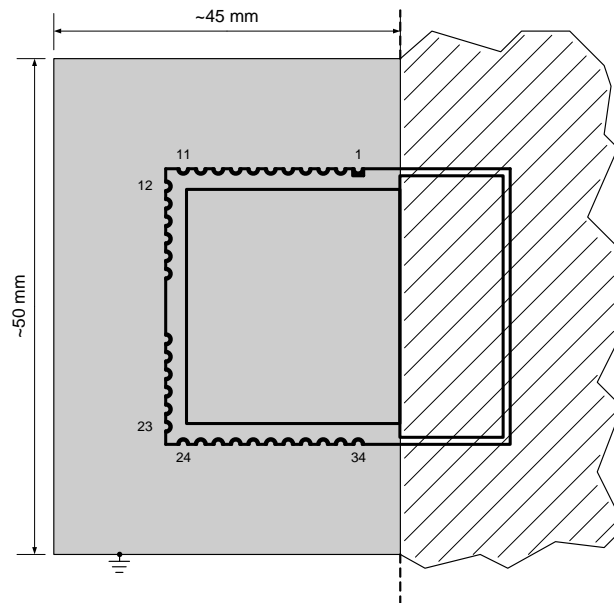

Figure 4-3: Recommended Environment
- As shown in Figure 4-3, the solid grey area must be a ground-plane on the Bottom Layer (or Layer 2 in a multi-layer structure) of the carrier board. Antenna matching and all other measurements have been done with these dimensions.
- The hatched area shown in Figure 4-3 has to be free of material (e.g. PCB, metal, housing). If possible, the distance from the antenna area to any material should be at least  $\lambda/2$  see 1.